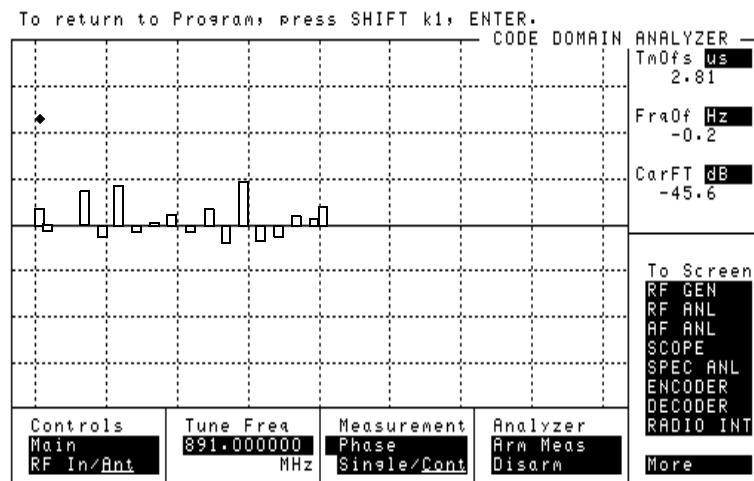

Figure 15
- 6 You should now see a display of relative phase, as shown in figure 15.